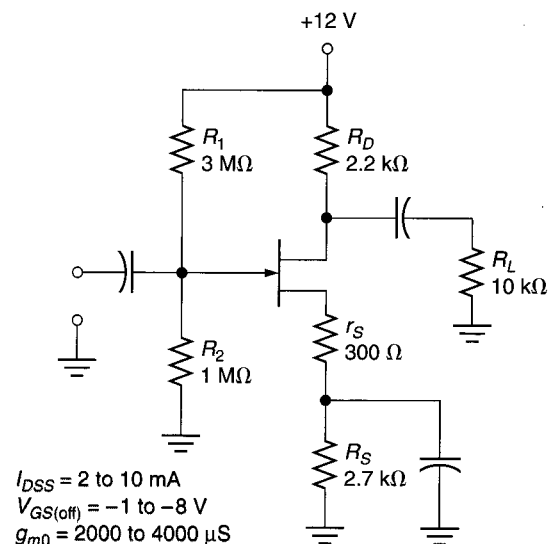

FIGURE 12.65
36. Determine the range of  $A_v$  values for the swamped amplifier shown in Figure 12.65.